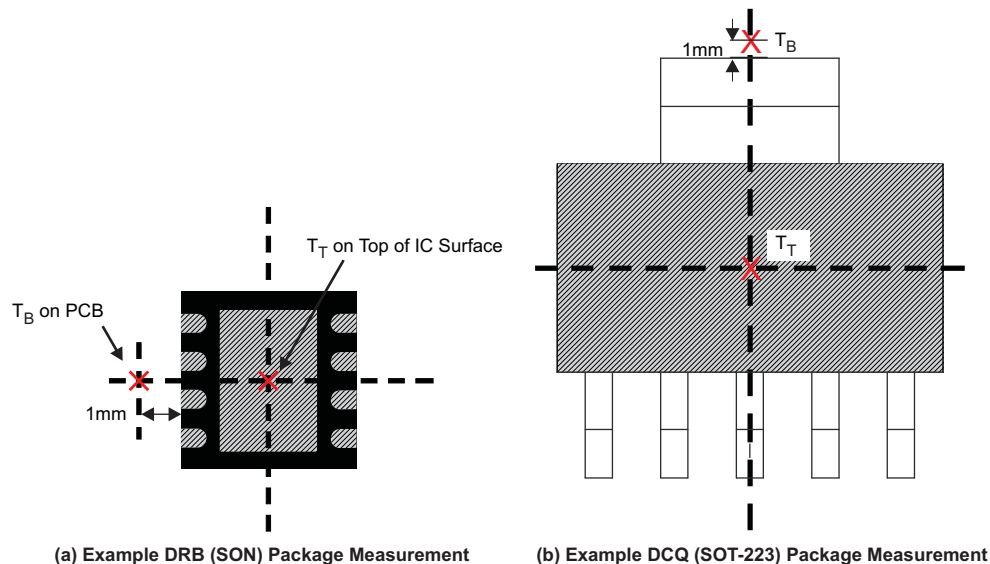

Figure 31. Measuring Point for T_T and T_B
- T_B is the PCB temperature measured 1 mm away from the IC package *on the PCB surface* (see Figure 31) (6)